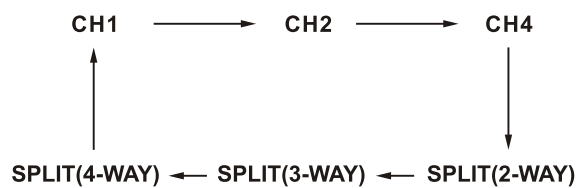

Figure 3: Source Select Sequence
- Source input modes that are skipped through the menu control function will be skipped. (Figure 3 shows sequence with CAM/INPUT 3 skipped.)